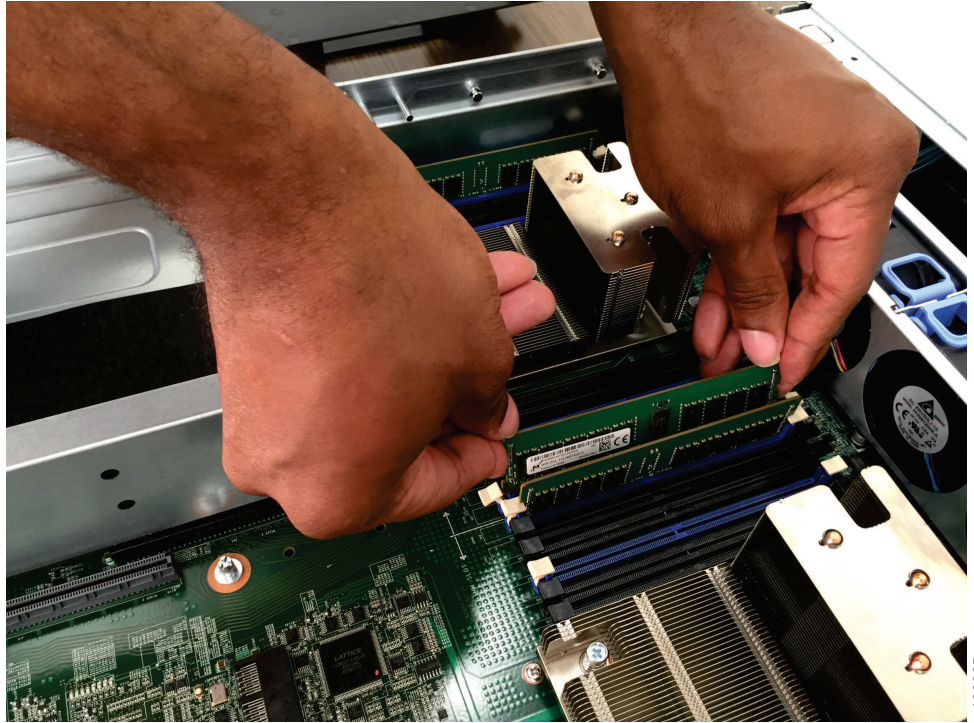

Figure 115. Installing the DIMM
6. Insert the DIMM into the connector by aligning the edges of the DIMM with the slots at the ends of the DIMM connector, as shown in Figure 115. Firmly press the DIMM straight down into the connector by applying pressure on both ends of the DIMM simultaneously. The retaining clips snap into the locked position when the DIMM is firmly seated in the connector.